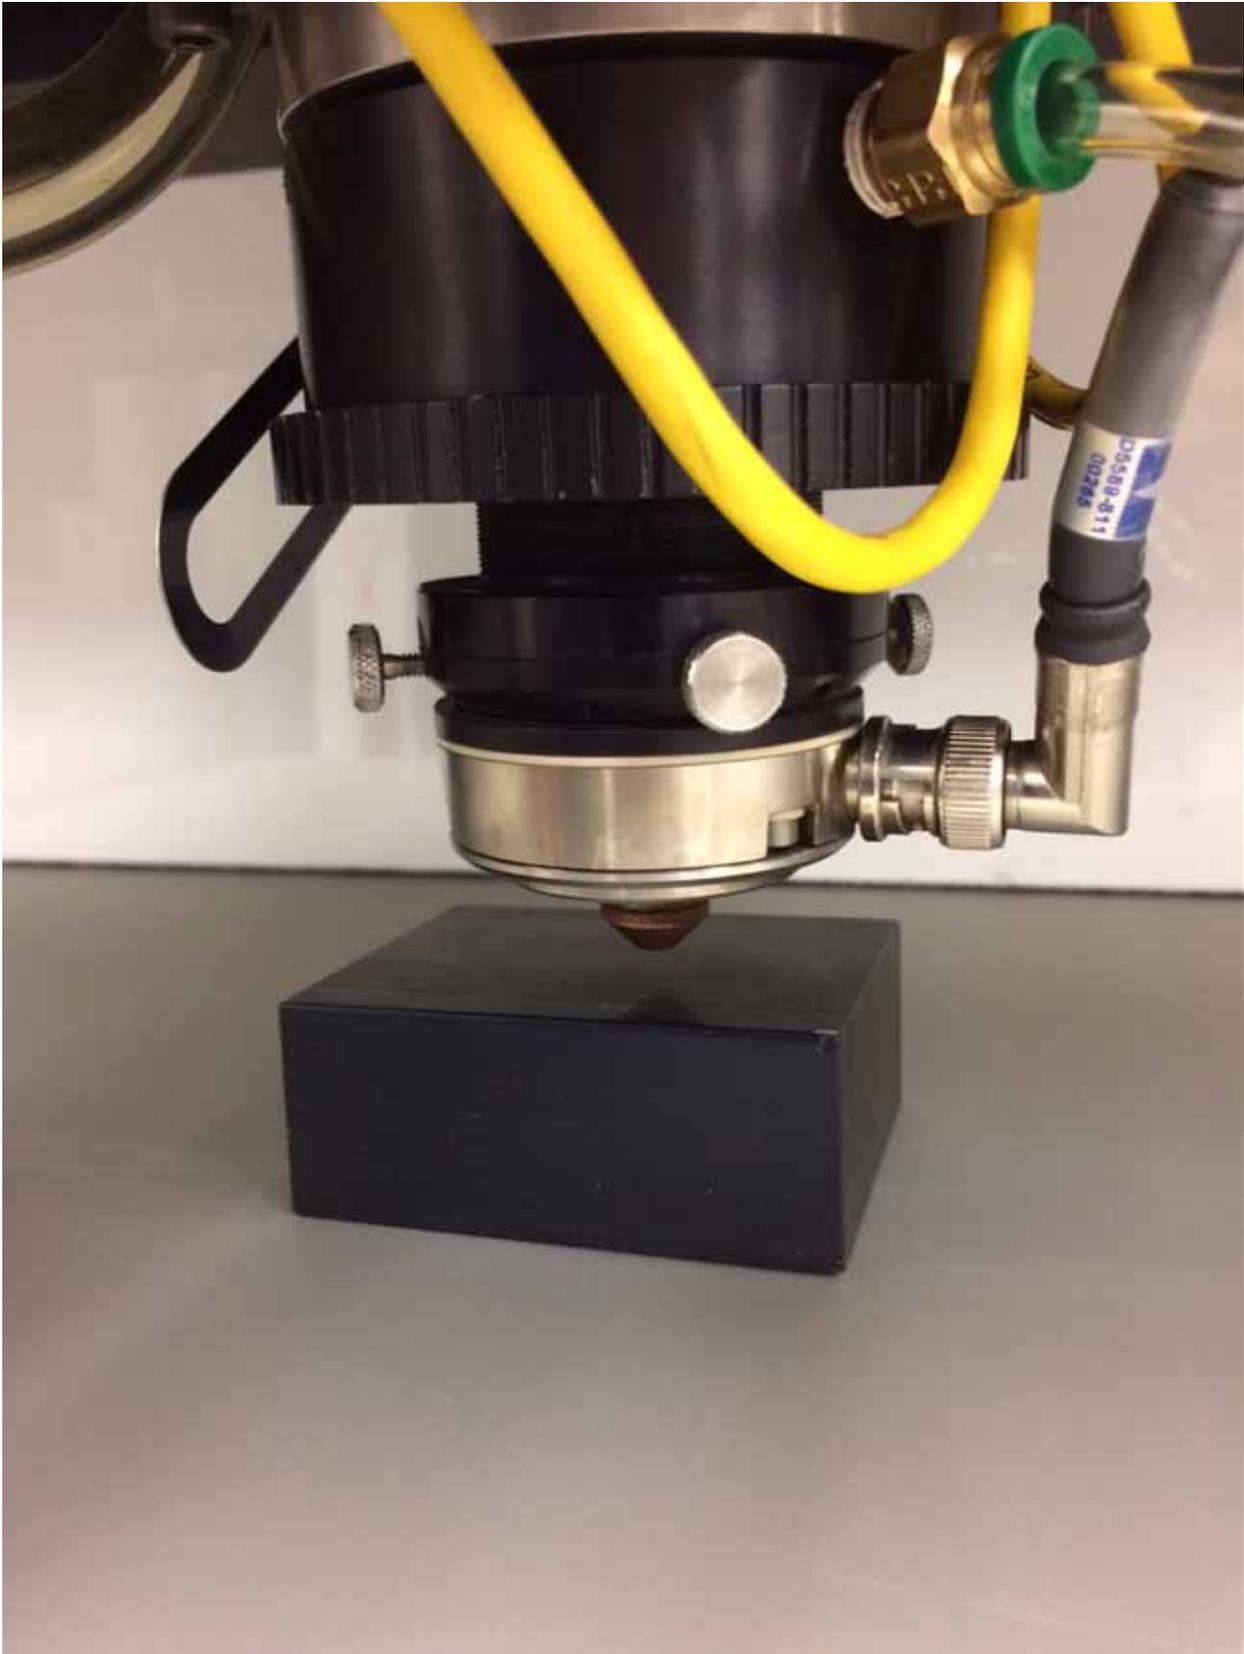

Figure 4-5. Setting the CHS Nozzle Offset
5. When the bed comes to rest, open the cover and slide the leveling block tool under the nozzle. To raise the nozzle, turn the adjustment knob counter-clockwise. To lower the nozzle, turn the adjustment knob clockwise. Raise or lower the nozzle until it starts to touch the leveling block (See Figure 4-5). Set the final height of the nozzle when adjusting it away from the cutting bed. Backlash in the threads combined with air pressure in the cutting head will lower the position of the nozzle if the adjustment is stopped when adjusting toward the cutting bed.